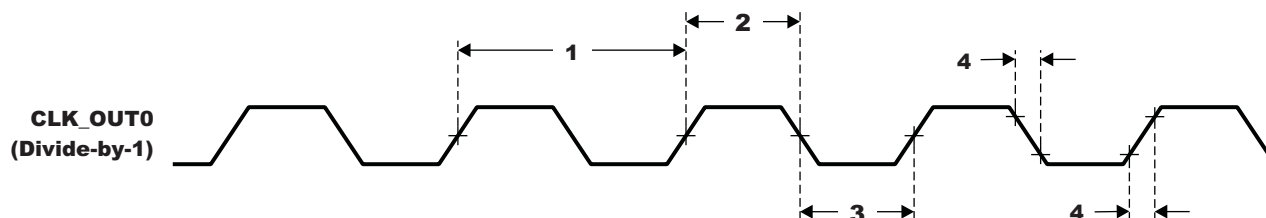

**Figure 6-13. CLKOUT0 Timing**
**Table 6-20. Switching Characteristics Over Recommended Operating Conditions for CLKOUT0 (1)(2) (see Figure 6-13)**